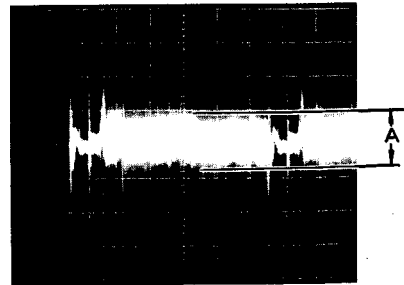

Fig. 5-6-8
- o Trigger the oscilloscope at H rate. (Use TP9 (BL), Deflection board).
- o Note the noise level of the detail signal as A mVp-p. (Fig. 5-6-8)